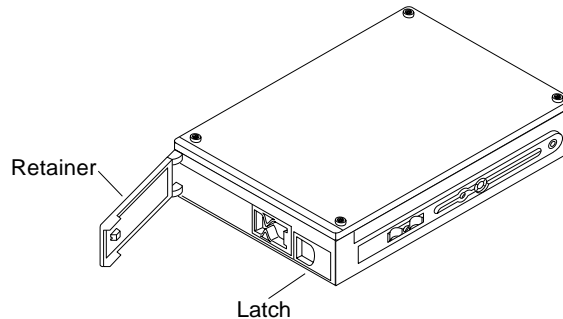

FIGURE 5-8 Disk Drive with Ejector Drive Retainer Open
2. Press down on the latch to unlatch the drive retainer and extend it 45 degrees (FIGURE 5-8).
7. Press down on the latch to unlatch and then open the ejector drive retainer for the drive being replaced or installed (FIGURE 5-8).